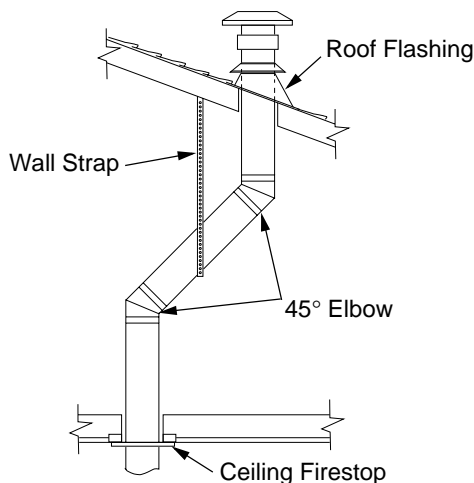

Figure 19 - Offset with Wall Strap and 45° Elbows
1. Determine the route your vertical venting will take. If ceiling joists, roof rafters, or other framing will obstruct the venting system, consider an offset (see Figure 19) to avoid cutting load bearing members. **Note:** Pay special attention to these installation instructions for required clearances (air space) to combustibles when passing through ceilings, walls, roofs, enclosures, attic rafters, etc. Do not pack air spaces with insulation. Also note maximum vertical rise of the venting system and any maximum horizontal offset limitations.
Note: If an offset is needed to avoid obstructions, you must support the vent pipe every 3 feet. Use wall straps for this purpose (see Figure 19). Whenever possible, use 45° elbows instead of 90° elbows. The 45° elbow offers less restriction to the flow of the flue gases and intake air.
5. Place the flashing over the pipe section(s) extending through the roof. Secure the base of the flashing to the roof and framing with roofing nails. Be sure roofing material overlaps the top edge of the flashing as shown in Figure 19. There must be a 1" clearance from the vent pipe to combustible materials.